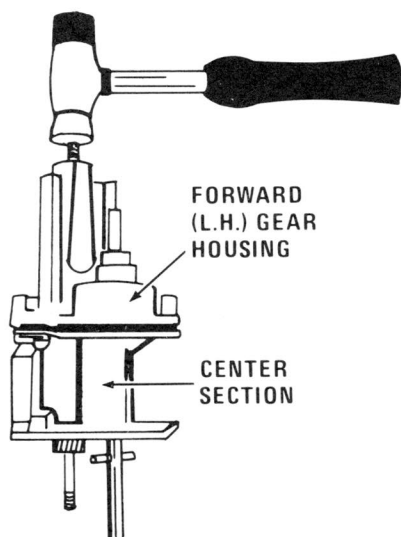

Fig. 10
- d. Hold the Forward Section upright and gently drive the main drive shaft out using a wood mallet separating the Forward (RH) gear housing from the Center Section (Fig 10).